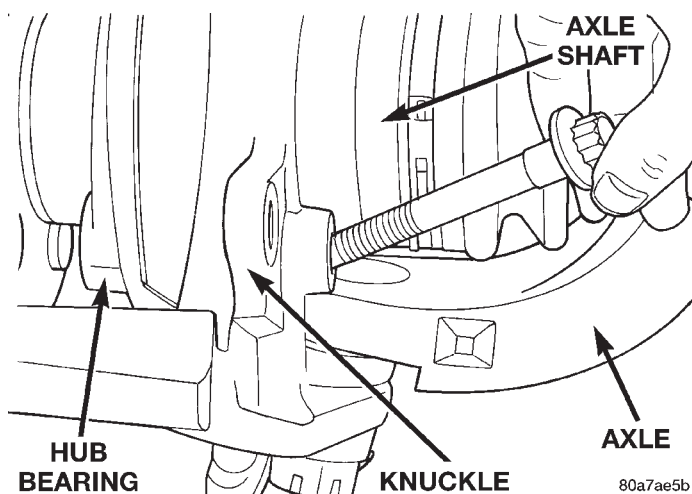

Fig. 25 Hub Bearing Bolts
- (6) Remove the hub to knuckle bolts (Fig. 25).
- (7) Remove the hub from the steering knuckle and axle shaft, if necessary.